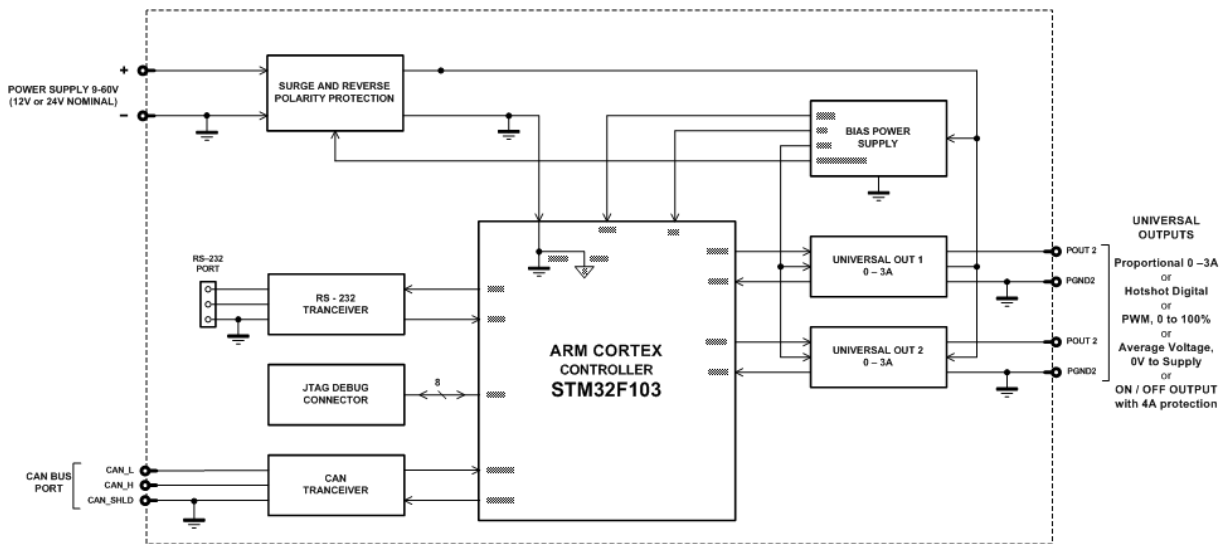
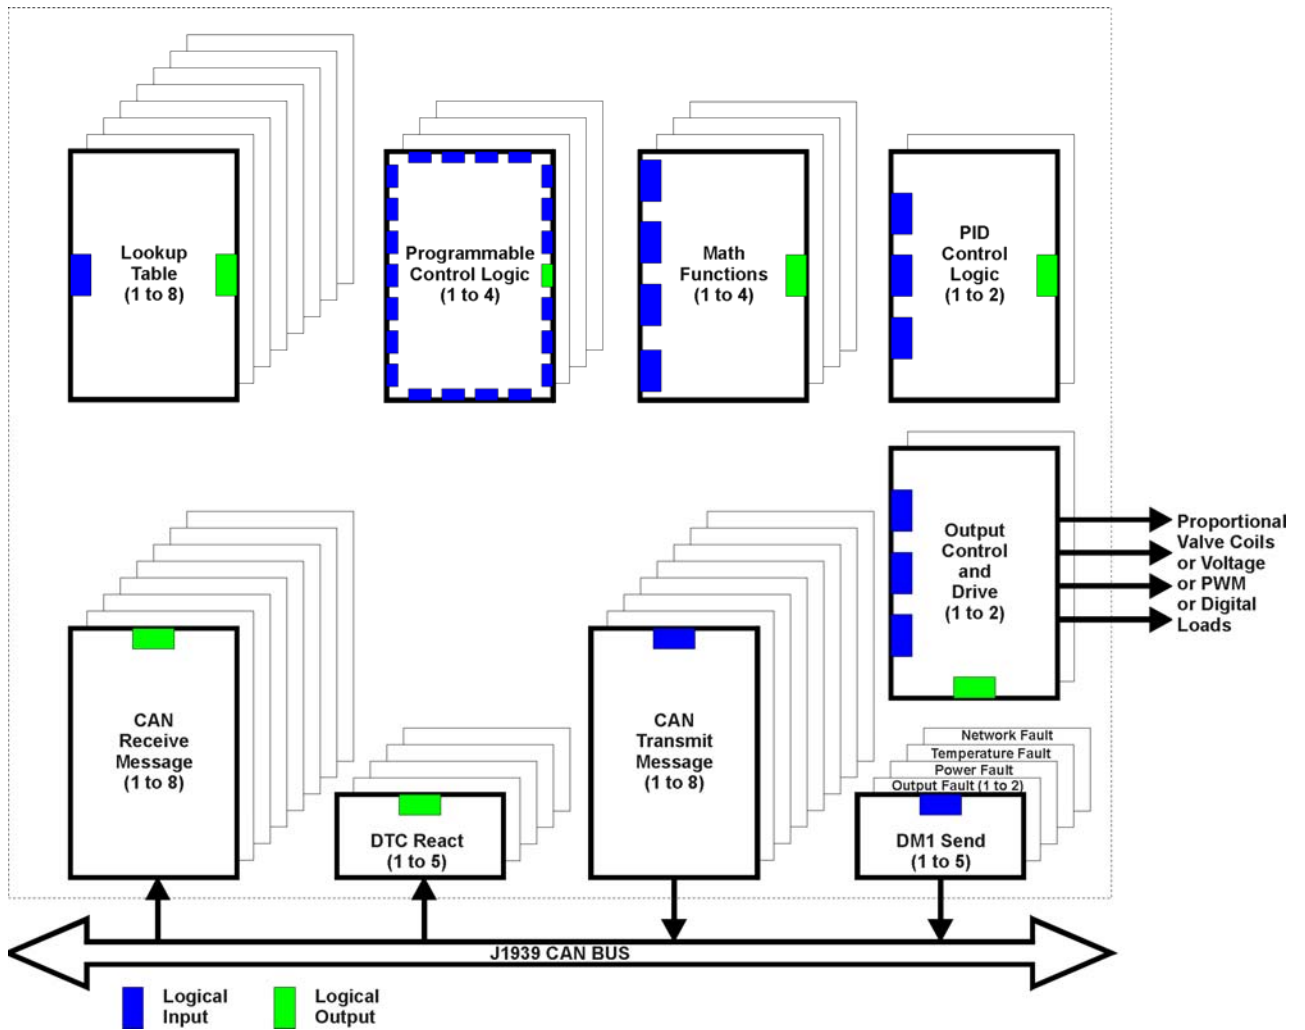

Figure 1A – Hardware Functional Block Diagram
Figure 1B –Logical Functional Block Diagram
**Description:** The CAN-2 Valve Controller (CAN-2O) is a highly programmable controller, allowing the user to configure it for their application. It must be integrated into a CAN J1939 network of controllers. Its sophisticated control algorithms allow for open or closed loop drive of the proportional outputs. All logical function blocks on the unit are inherently independent from one another, but can be programmed to interact in a large number of ways. While Figure 1A shows the hardware features, Figure 1B shows the logical function blocks (software) available on the CAN-2O. All setpoints are user configurable using the Electronic Assistant®.